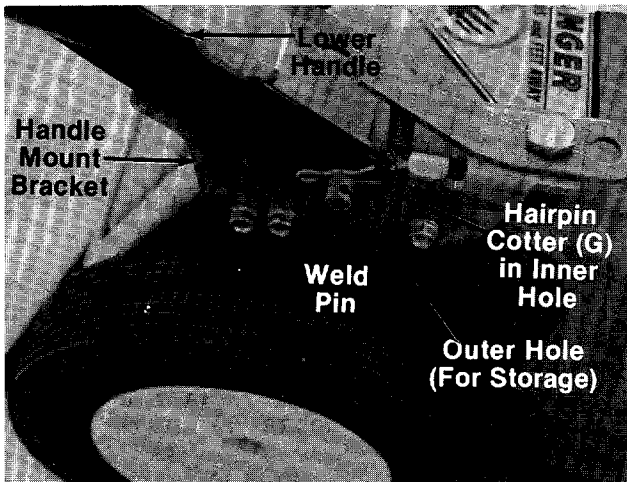

FIGURE 2.
- A (2) Curved Head Carriage Bolts
- B (2) Lock Washers 5/16" I.D.
- C (2) Hex Nuts 5/16-18 Thread
- D (2) Cable Ties
- E (1) Hex Bolt 1/4-20 x 1.50" Long
- F (1) Hex Lock Nut 1/4-20 Thread
- G (2) Hairpin Cotters
- H (1) Ferrule
- I (1) Ferrule Locking Ring
- ← 3. Fasten lower handle in position over weld pins in handle mount brackets on deck. Secure with hairpin cotters (G) in inner hole on weld pin. See figure 2.